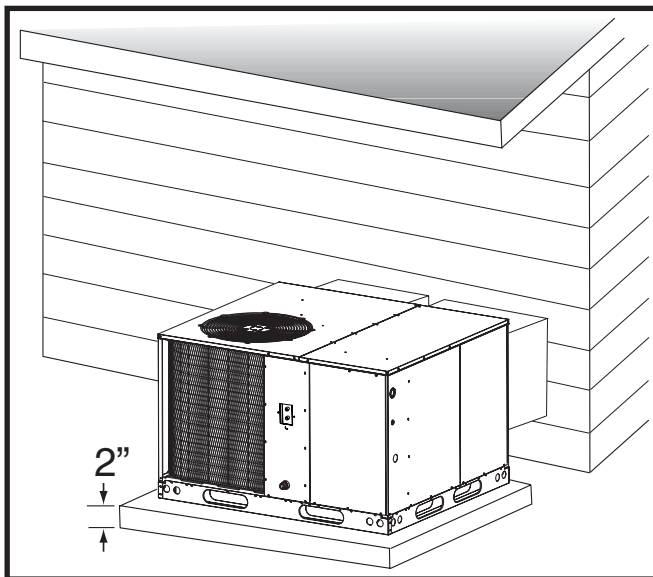

Figure 3. Ground Level Installation
- A suitable mounting pad must be provided and separate from the building foundation. The pad must be level to ensure proper condensate disposal and strong enough to support the unit's weight. The slab height must be a minimum of 2" (5cm) above grade and with adequate drainage. See Figure 3.